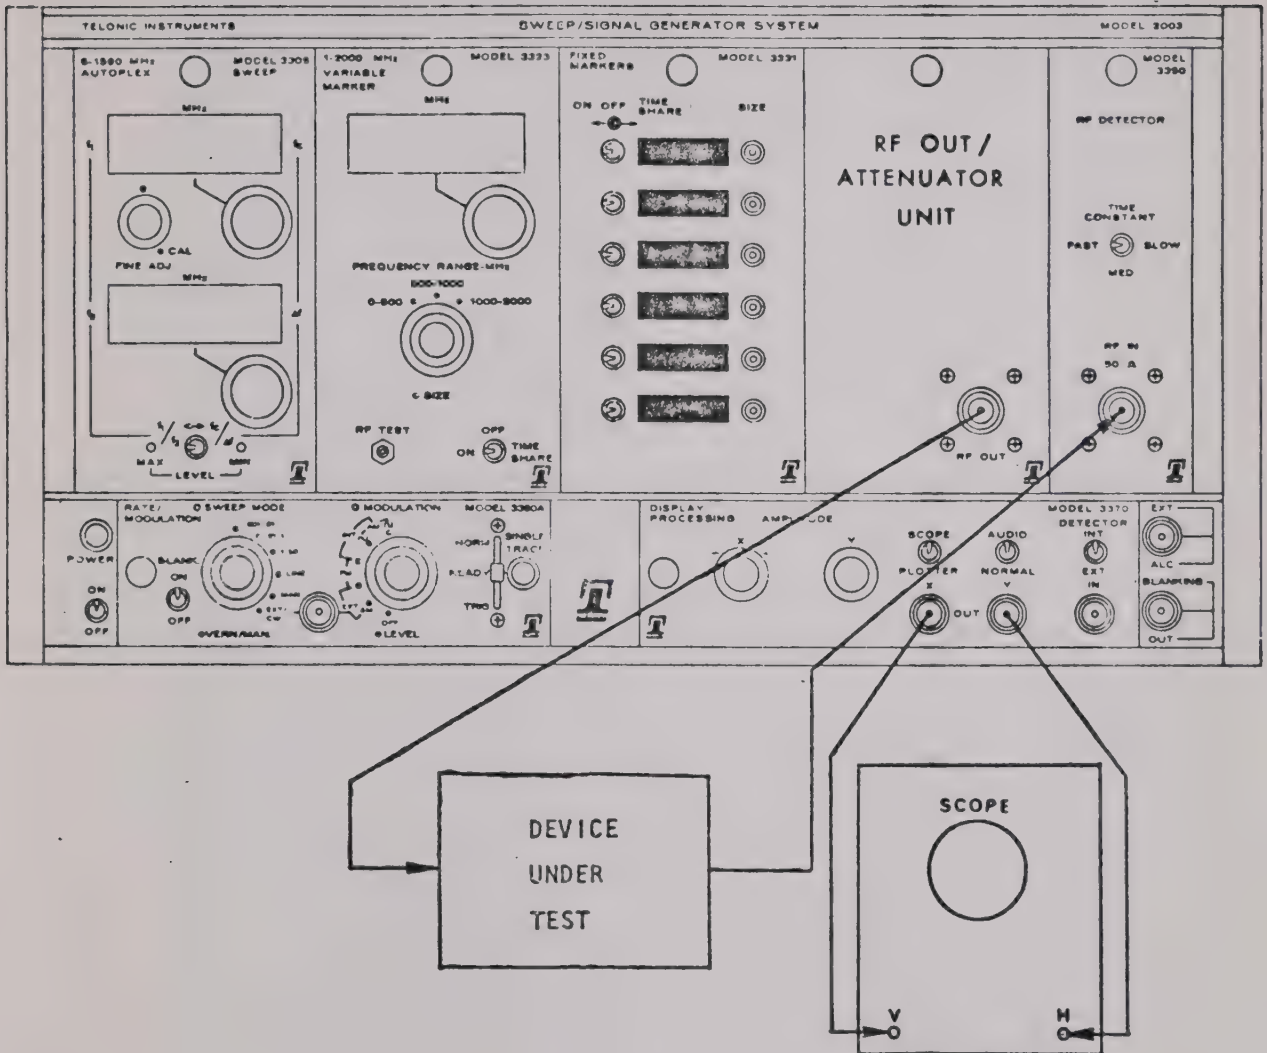

Figure 2-4. Typical Test Connections
2.4.2 Connect the 2003 to the unit under test as shown in Figure 2-4.